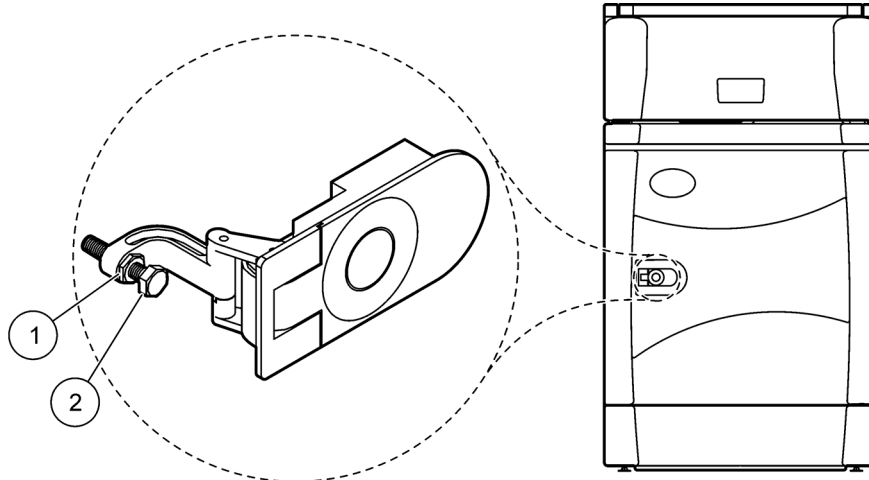

Figure 40 All weather refrigerated sampler door latch
1. Loosen the lock nut (Figure 40).